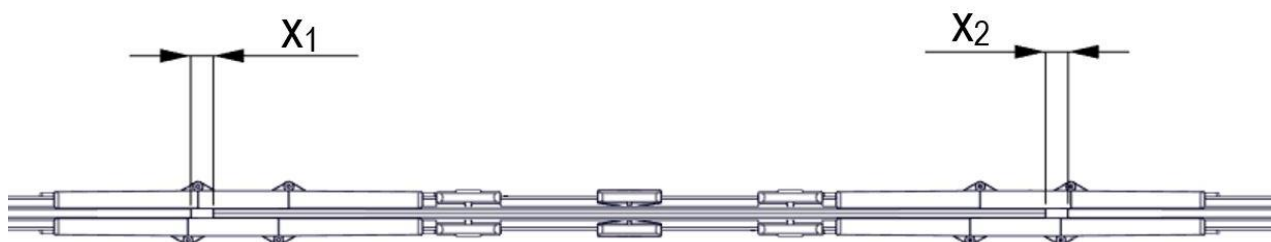
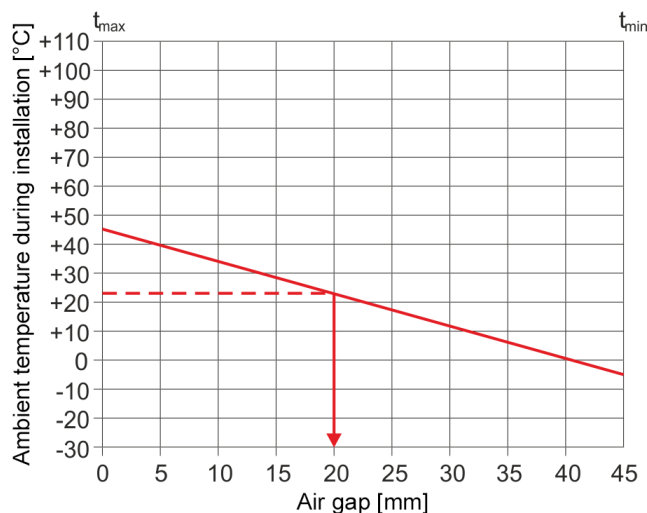

Fig. 89: Expansion gap in the expansion unit
Fig. 90: Determine the size of the air gap
- The size of the air gap depends on the ambient temperature during installation. Determine the air gap dimension, consisting of the expansion point dimensions x_1 and x_2 (see Fig. 89), using the diagram (see Fig. 90 or the template diagram in Section 12.2). Set the determined dimension from below. The dimension does not need to be set symmetrically at the expansion points.